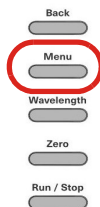

Figure 14. Front Panel MENU Function Button
2. Press the MENU function button. Refer to Figure 14.